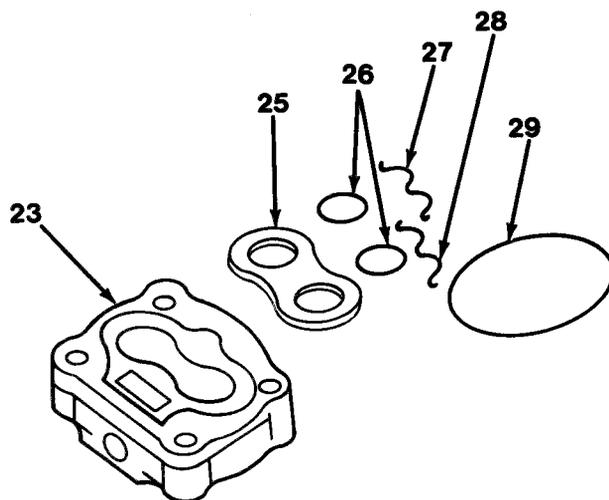
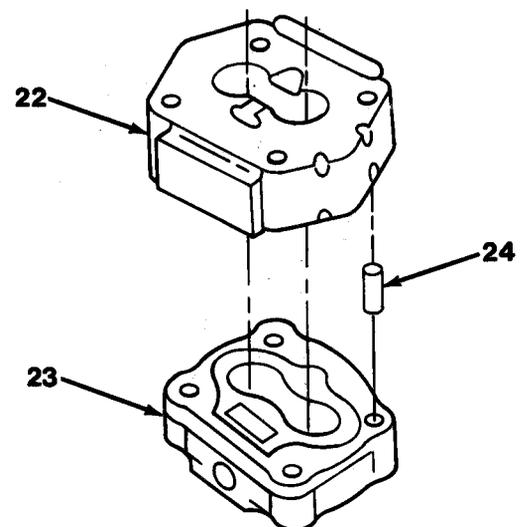

Figure 13-7
Figure 13-6
6. Separate gear plate (22) from cover plate (23, Figure 13-6).
7. Remove eight dowel pins (24) from gear plate (22).
8. Remove thrust plate (25, Figure 13-7).